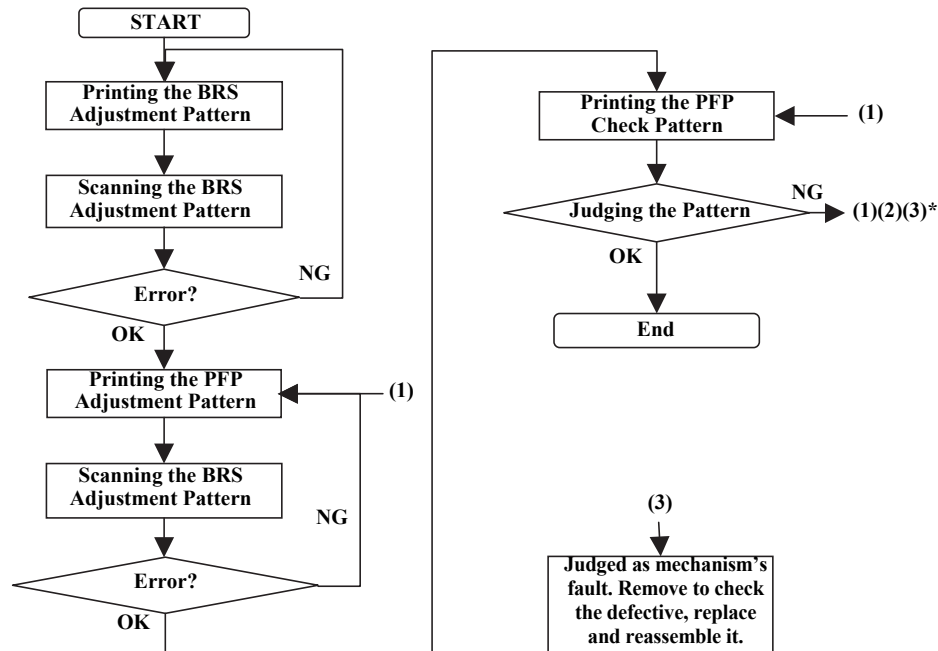

Figure 5-24. BRS/PFP Adjustment Flow
When performing PFP adjustment only without BRS adjustment, start adjustment from step (2) in *Figure 5-24*.